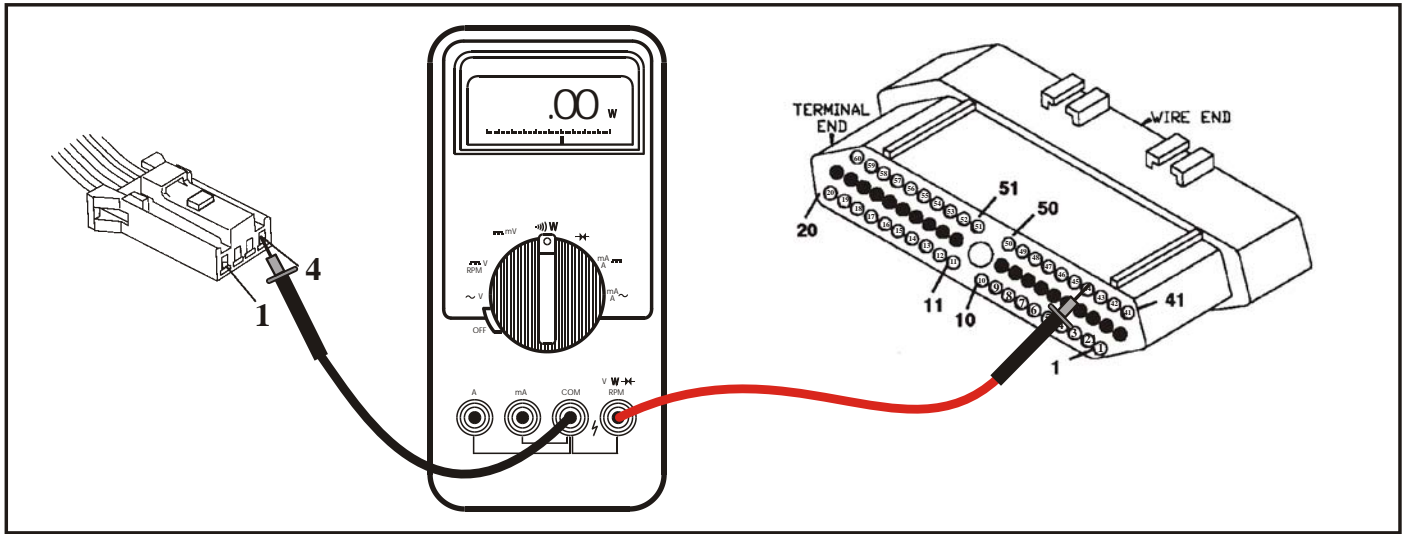

Figure 6
- (4) If continuity is seen, perform a continuity check from terminal 4 in the Autostick connector to terminal 44 in the TCM (See Figure 6). If continuity is not seen, the wire is severed. Repair or replace the wire.
- (5) If continuity is seen, the Autostick Switch is defective and replacement is necessary, which means the entire shift lever mechanism must be replaced as a unit, as this is the only way that the Autostick Switch is available, at this point in time.